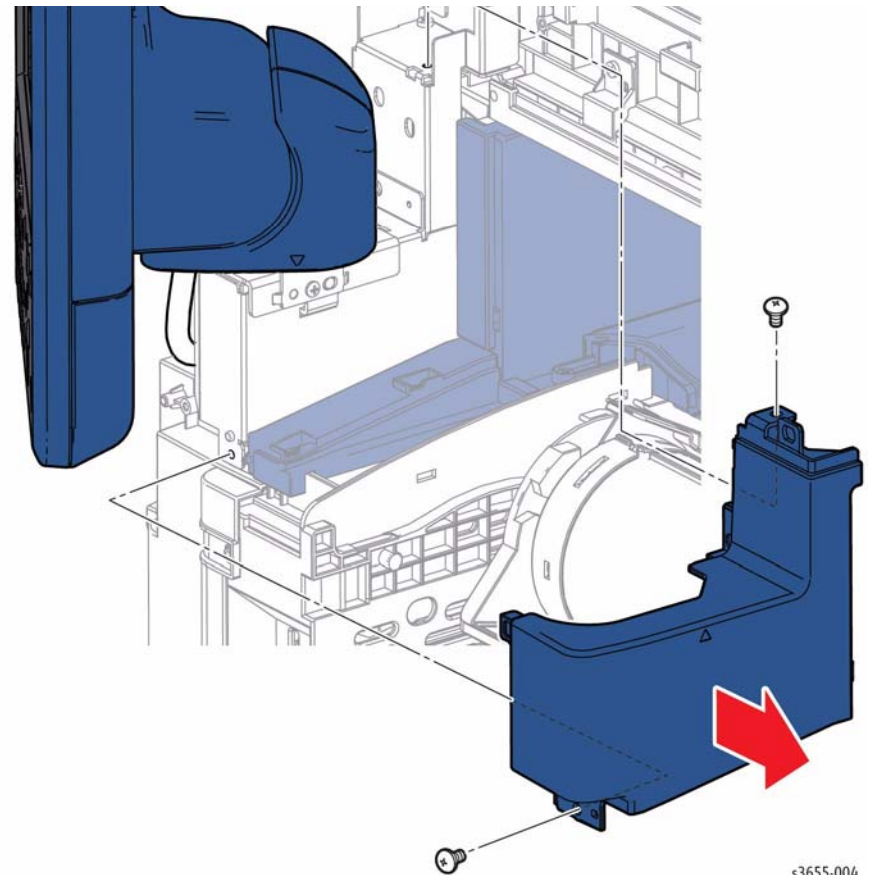

Figure 1 Remove the Right UI Base Cover
5. Refer to Figure 1 to locate and remove 2 screws (metal, 6mm), then slide the cover forward to remove.